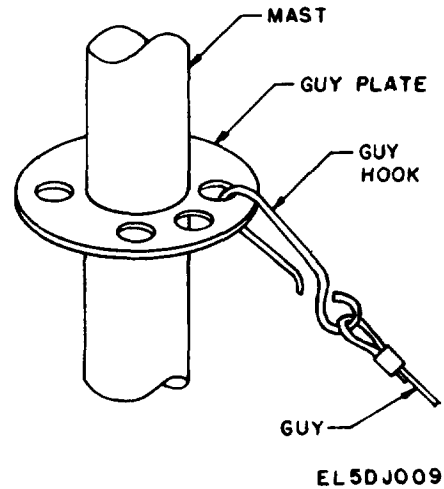

Figure 2-4. Attachment of guy hooks to guy plate.
f. Attach the guy hooks, color coded blue, of the four lower guy ropes to the holes of the lower guy plate (fig. 2-4).